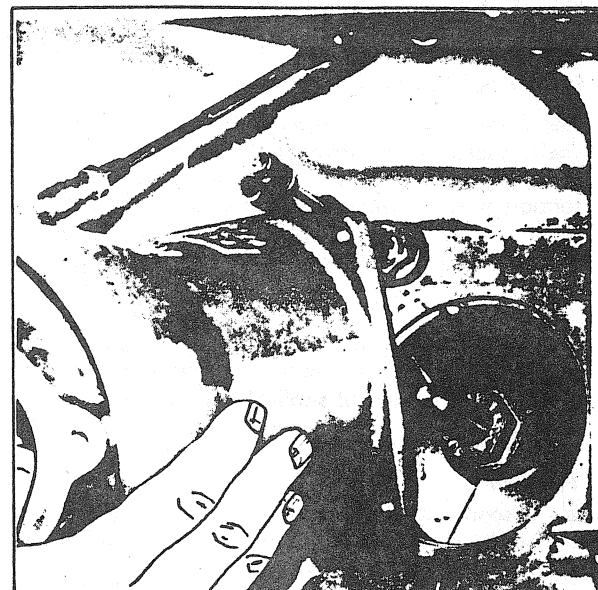

FIGURE 7
- Twist the bowl off the fit and gently pull the assembly from the impeller shaft (fig. 7).